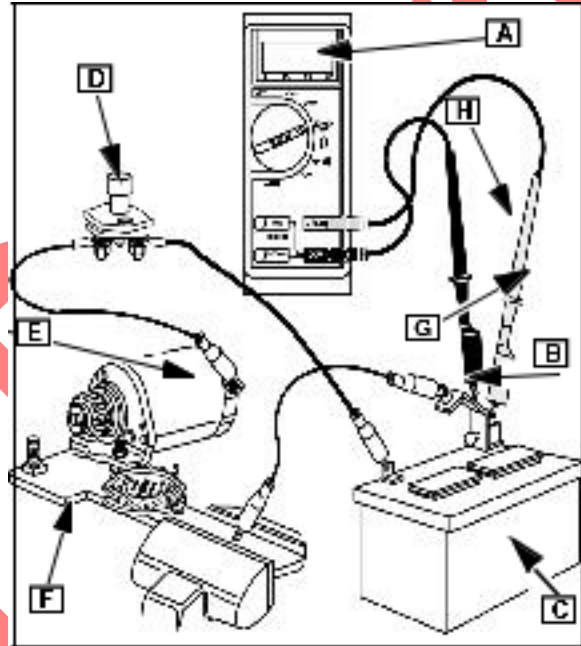

Fig. 61
A fully charged 12 volt battery ([C] Fig. 61).
2. Connect starter switch (D) to starter motor (E), battery (C), BLACK lead (G), RED lead (H), shunt (B) and multimeter ([A] Fig. 61).